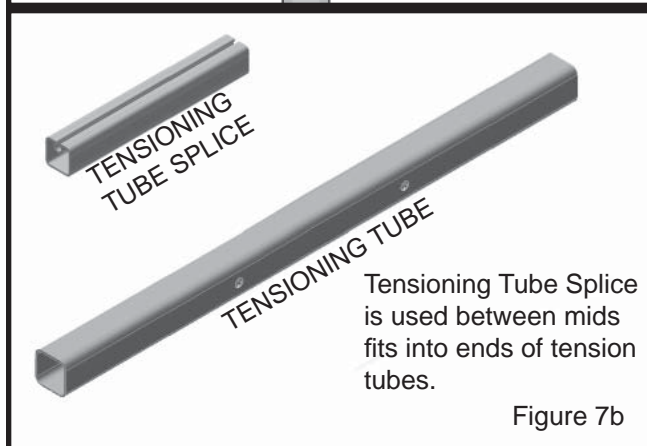

Figure 7b
- At front of mids, insert tension tubes into pockets under curtain. Between mids, use a tension tube splice to connect tubes. (Figure 7b) Before insertion, hang tension strap with ratchet and hook over the tension tube splice. At ends, hang tension strap over end of tension tube as shown in Figure 7c.